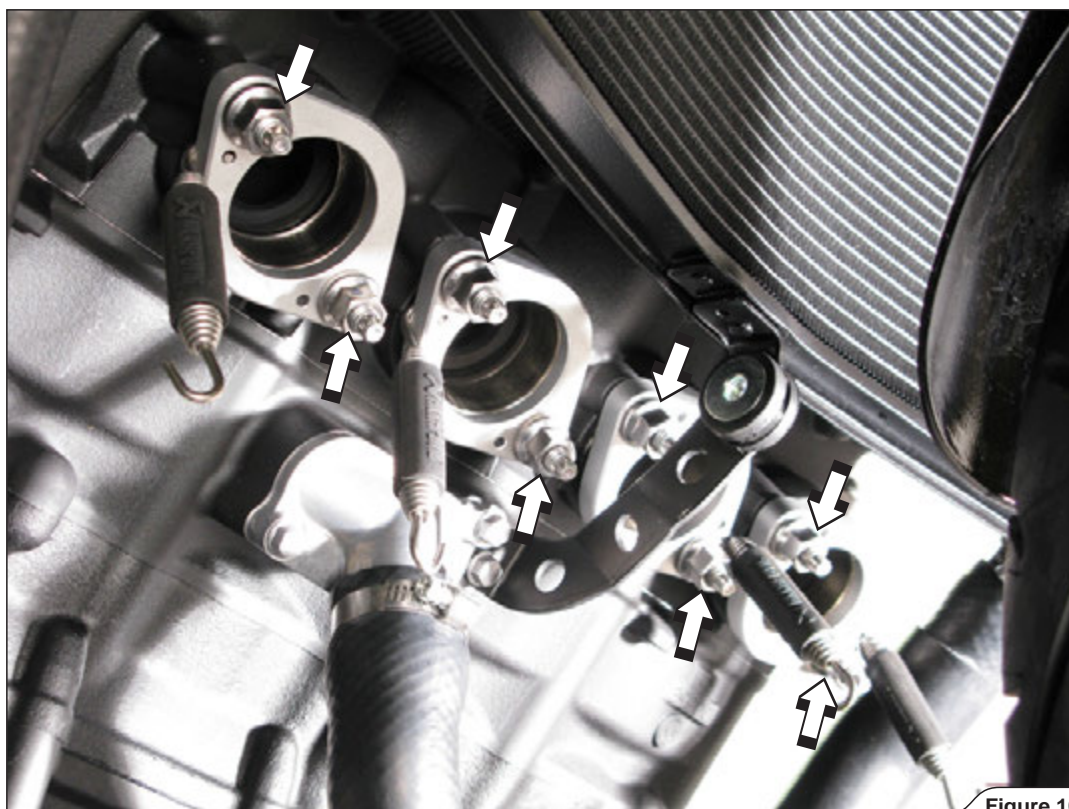

Figure 10
2. For Akrapovič Racing only: hand tighten the assembled sleeves, flanges and springs onto the motorcycle (Figure 10).